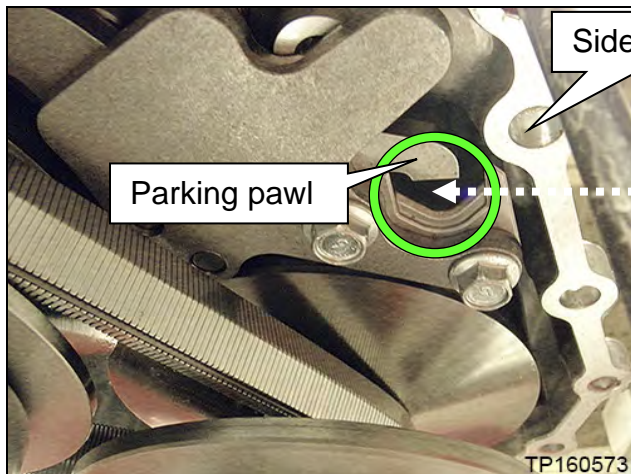
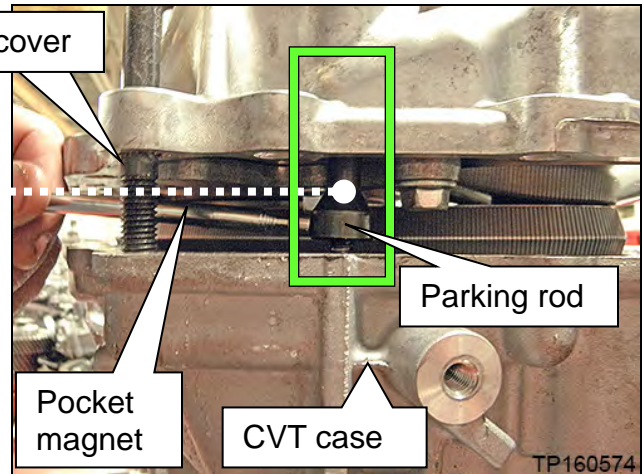

Figure 27F
Figure 28F
- d. Use a magnet, or similar tool, to align the park rod in the CVT case (  in Figure 28F) with the opening in the parking pawl (  in Figure 27F) in the side cover.